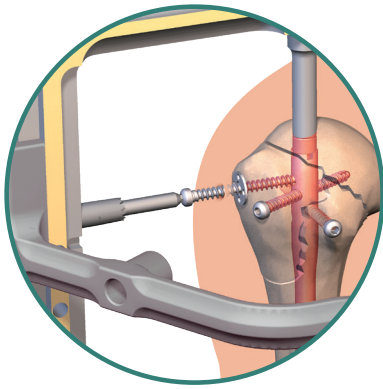

fig. 7
**Option:** A washer (**ref. 270 180**) can be used on each proximal screw in order to optimise compression of the bone fragment and/or to allow osteosuturing. The washer is fitted once the aiming sleeve has been partially removed by about 1 cm from the skin (**fig.7**).